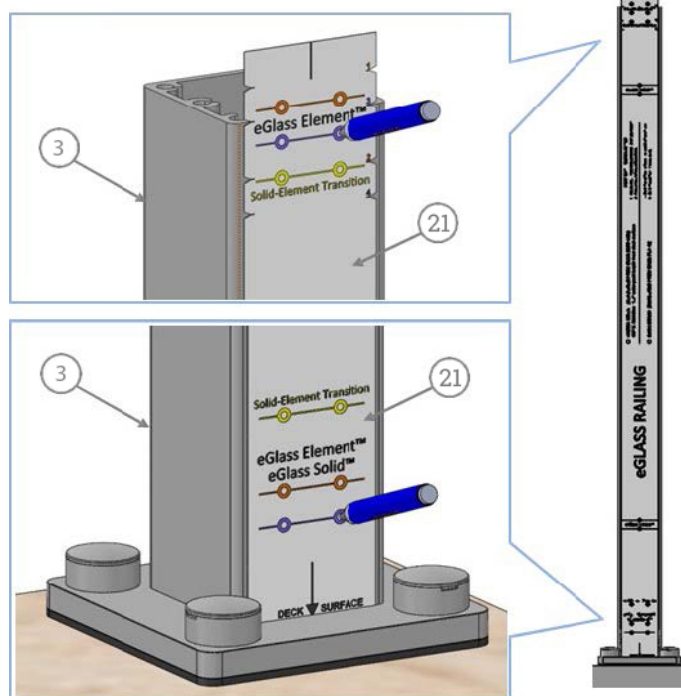

Fig 12
- Place the drill guide (21) on the post. Place the end that says "DECK SURFACE" as shown in Figure 12. Tape the Drill Guide to the post using painter's tape.